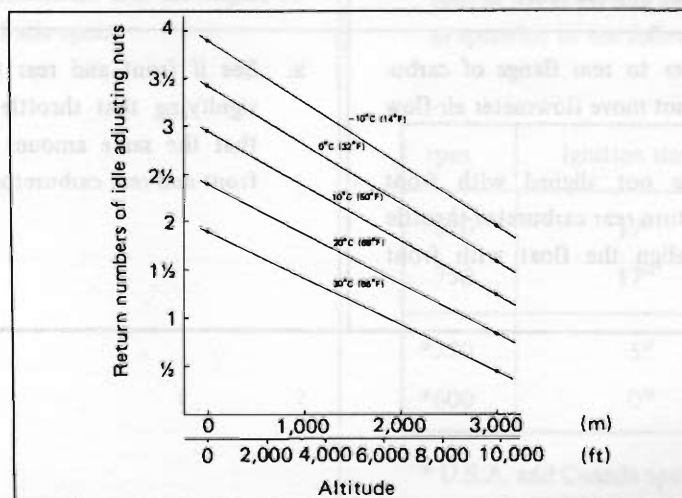

Fig. EF-40 The number of returns in idle adjusting nuts
3. Tighten front and rear idle adjusting nuts until they no longer go. Then, loosen these nuts as required to meet the ambient temperature and altitude.	a. Turning out idle adjusting nut one full turn causes nozzle head to the position 1 mm (0.039 in) below jet bridge. b. Refer to Figure EF-40 to determine how much idle adjusting nuts should be loosened according to the ambient temperature and altitude.